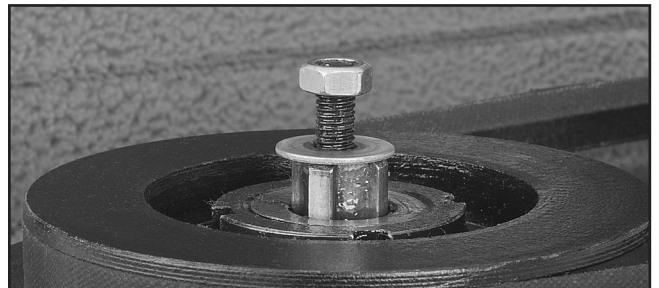

Figure 26. Nut unthreaded to top of drawbar.
1. Loosen the drawbar hex nut and unthread it to the top of the drawbar without removing it (**Figure 26**).